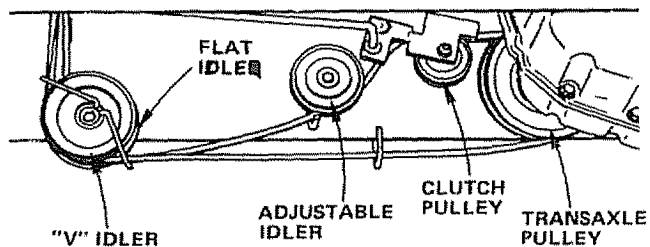

FIGURE 54
- Roll Belt off "V" Idler, Flat Idler and Adjustable Idler Pulleys (Fig. 54).
- Make sure "V" part of Belt engages "V" Idler (Fig. 54).